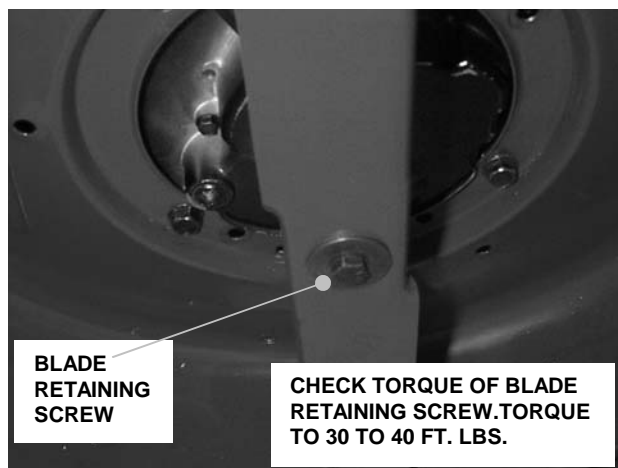

FIGURE 3.2
2. Tilt mower up on its rear wheels for access to the blade cap screw. Do not tilt mower with spark plug or carburetor down. See Figure 3.2.
3. Check torque of blade retaining cap screw. Recommended torque should be 30 to 40 ft. lbs. See Figure 3.2.
6. Reinstall blade. See Figure 3.2. Check torque of blade retaining cap screw. Recommended torque should be 30 to 40 ft. lbs.